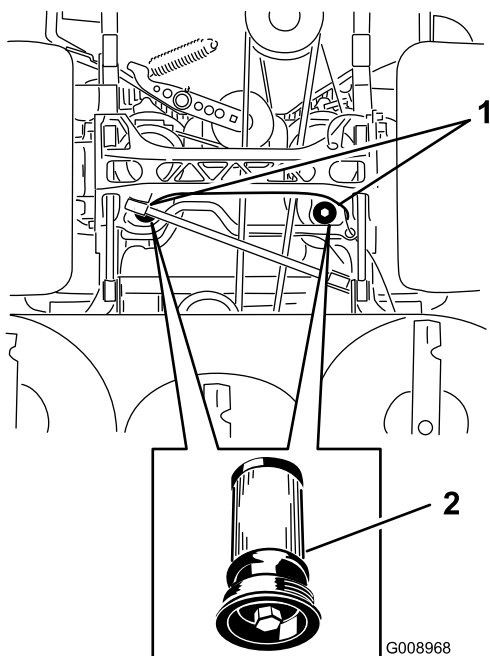

Figure 85
5. Place a drain pan under the filter, remove the old filter and wipe the surface clean (Figure 85).
6. Apply a thin coat of hydraulic oil to the rubber gasket on the replacement filter (Figure 85).